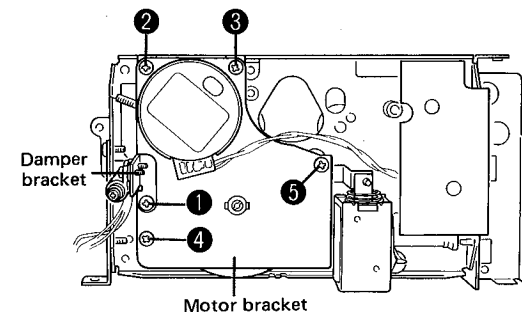

Fig. 16
1. Remove screw 1 (Fig. 16) and remove the damper bracket.
2. Remove the motor bracket by removing screws 2 to 5 in Fig. 16. Remove the main belt from the motor pulley as this time.